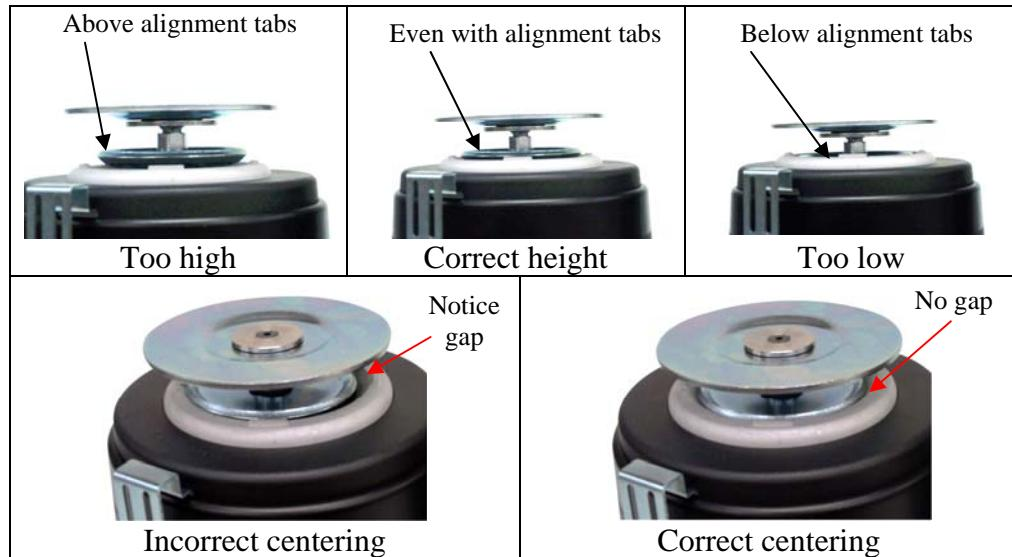

Figure 11—Floating Height Adjustment and centering
1. After the table floats, check the position of the centering guide and flange of all isolators (Figure 11). The gap between the guide and flange should be $\frac{1}{4}'' \pm \frac{1}{16}''$ (6mm \pm 1.5mm). The center of the isolator centering disk should be aligned with the float height indicator tabs (Figure 11).
2. Isolators that float too high, too low, or are not centered may conduct floor vibration to the table top. Refer to Section 2.3.2. (Figure 11) Centered isolators will remain centered unless the table and isolators are moved relative to each other.